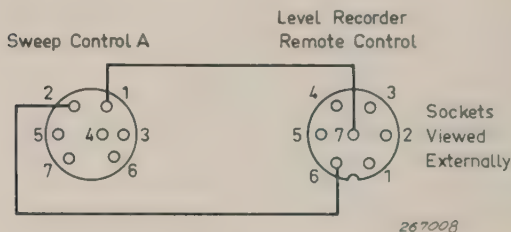

Fig. 6.1. To control the Level Recorder from the Automatic Vibration Exciter Control, connect the two instruments as shown.
- d) Interconnect Level Recorder's REMOTE CONTROL socket with the 1025's SWEEP CONTROL A as illustrated in Fig. 6.1.